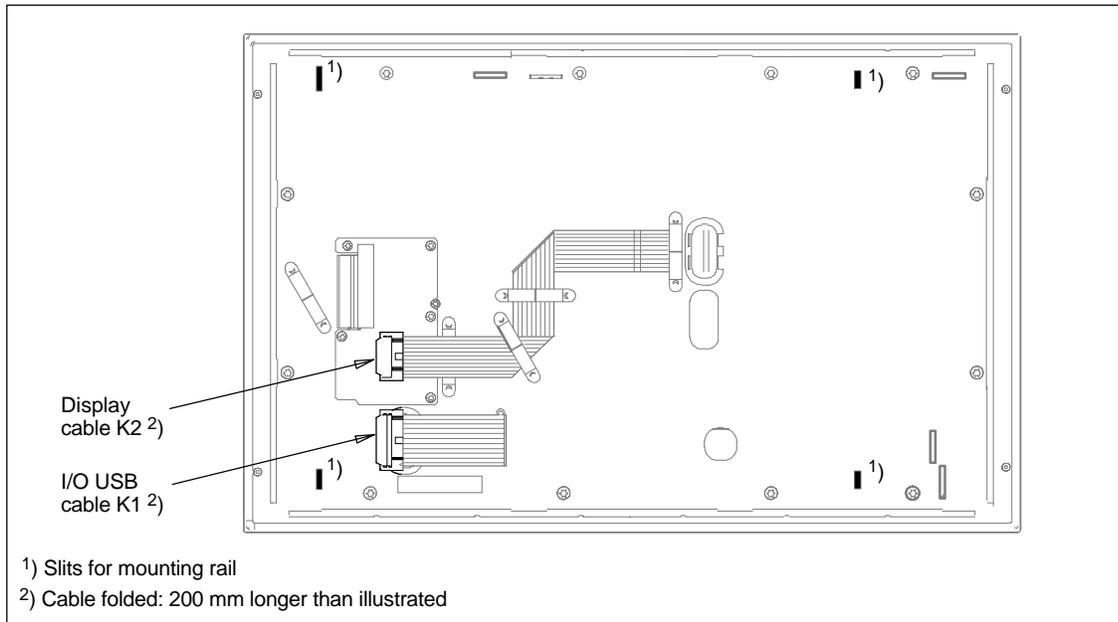

Fig. 4-2 Rear side of operating unit with positions of interfaces
3. Remove the cable connectors K1 and K2 of the operating unit (see Figure 4-2) from their corresponding counterparts on the computing unit.
4. Lift the computing unit off horizontally by removing these clips from the corresponding slits on the operating unit (see Figure 4-2 below).